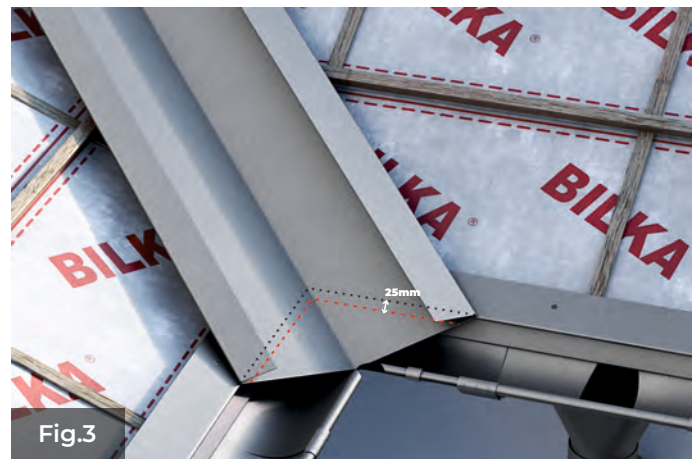

Fig.3
1. At the junction with the rain shadow border, the eaves must be cut as seen in fig. 3 and 4. This is how you mark the junction of the eaves with the rain shadow border, by adding 25mm, then it must be folded over the rain shadow border as seen in fig. 8.